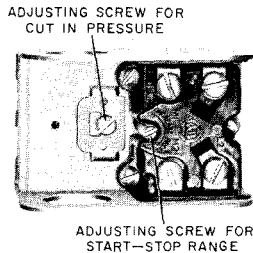

Fig. 6—B-124 Pressure Switch
(2) *If the pressure exceeds 42 psi*, the trouble is probably in the B-124 pressure switch (in the top section of the cabinet) and adjustment or replacement of the switch will be necessary (Fig. 6).
- (4) To *increase* the start and stop range, turn the adjusting screw at the top of the terminal block in a clockwise direction (Fig. 6).
- (5) To *decrease* the start and stop range, turn the adjusting screw at the top of the terminal block in a counterclockwise direction.
- (6) If the 10 psi range difference between start and stop settings of the switch requires adjustment, turn the adjusting screw at the base of the terminal block counterclockwise to increase, or clockwise to decrease, the cut-in pressure. This adjustment will not change the cutoff pressure setting.
- (7) Remove rubber gloves.